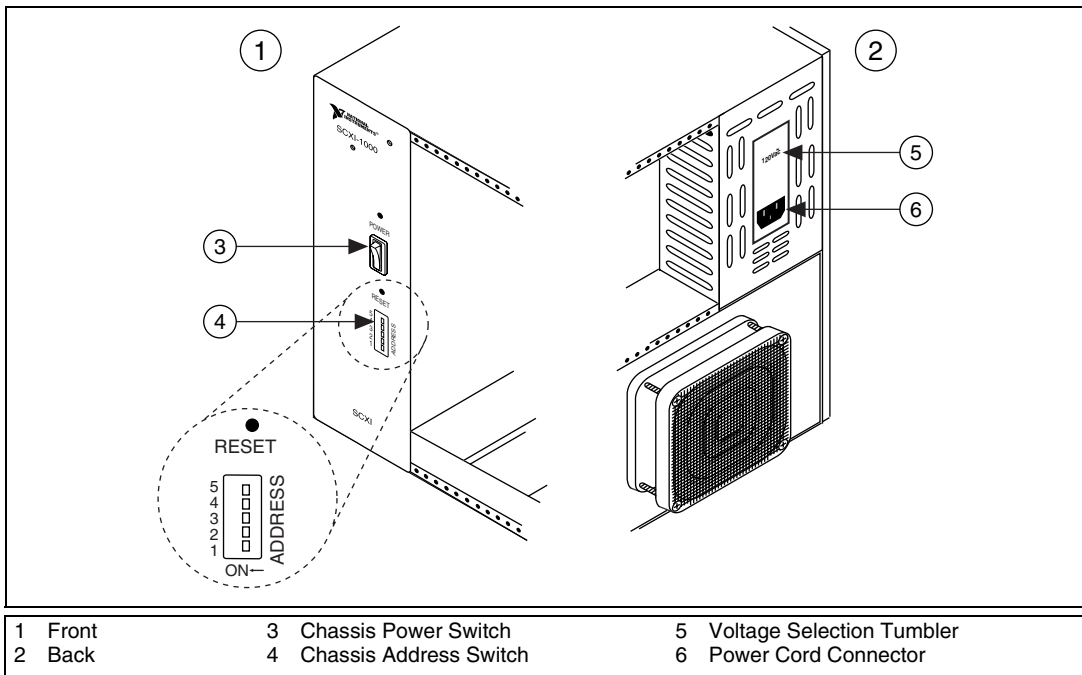

Figure 3. SCXI Chassis Setup
- If the chassis has address switches, set the positions to off. In Figure 3, all switches are shown in the off position.